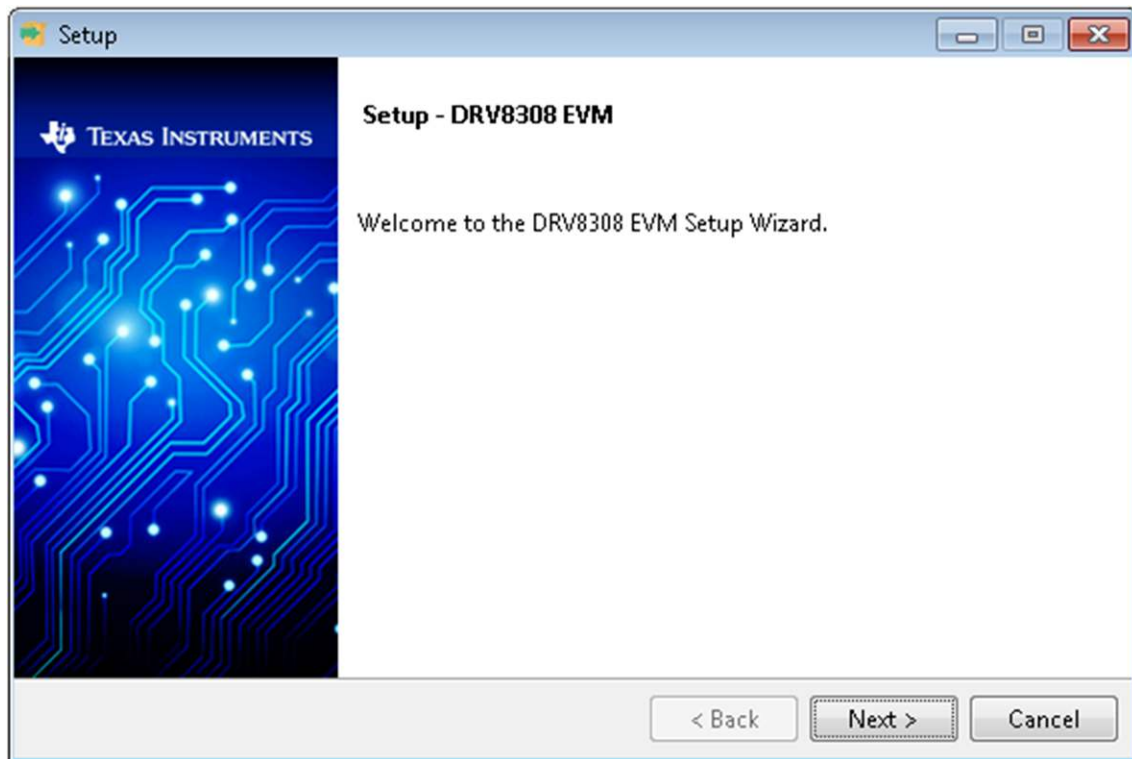

Figure 8. Installation Initialization
- Step 2. Click the *Next* button when the window in Figure 8 appears which indicates installer initialization..